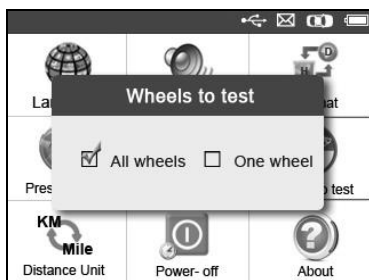

Figure 2.8
- 2) From **Wheel to test** screen, use the **LEFT/RIGHT** scroll button to select **All Wheels** or **One Wheel** mode for TPMS sensor testing. (Figure 2.8)